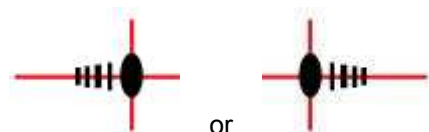

Figure 4-1: Laser Image
- f) The laser image should be as shown in Figure 4-1. You should observe a large primary laser beam with several harmonics to one side (either image is acceptable, depending on your microscope illuminator).